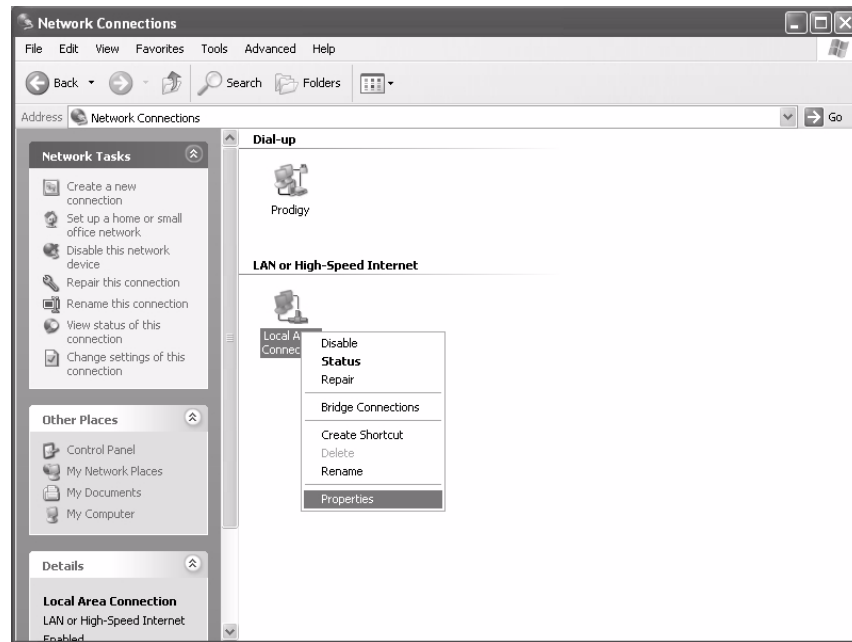

Figure 67: Network Connections - Windows XP
2. A list of network adapters appears as shown in Figure 67. The Local Area Connection icon must appear under the LAN or High-Speed Internet heading. If it does not, the network is not installed correctly.